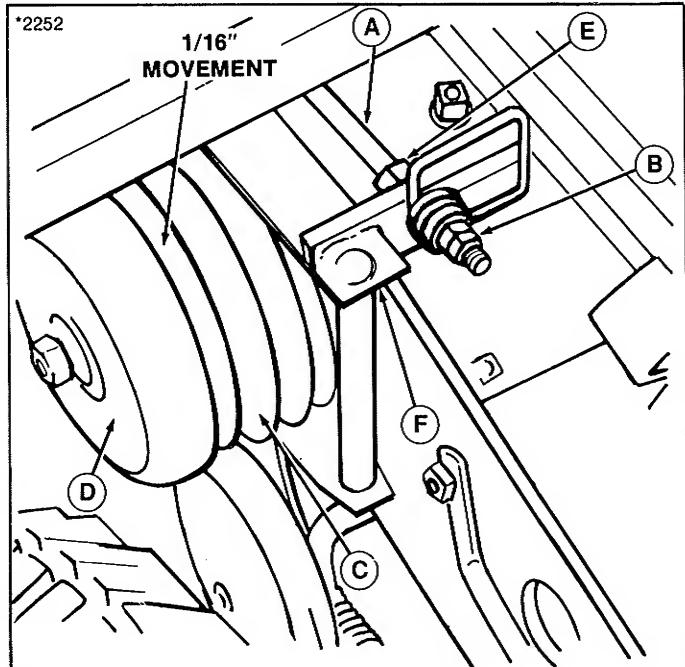

Figure 24. PTO Clutch Adjustment
The PTO clutch is properly adjusted when the clutch pulley (C, figure 24) moves away from clutch cone (D) $1/16$ inch (1.5 mm) when clutch is disengaged. To adjust, proceed as follows.
1. Loosen the rear nut (B).
4. Adjust locknut (E) so there is $1/8$ " (3 mm) between locknut (E) and pivot arm when clutch is disengaged.